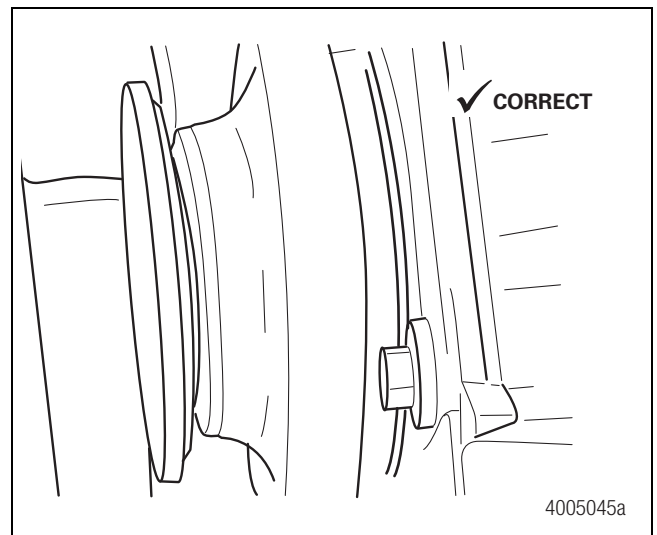
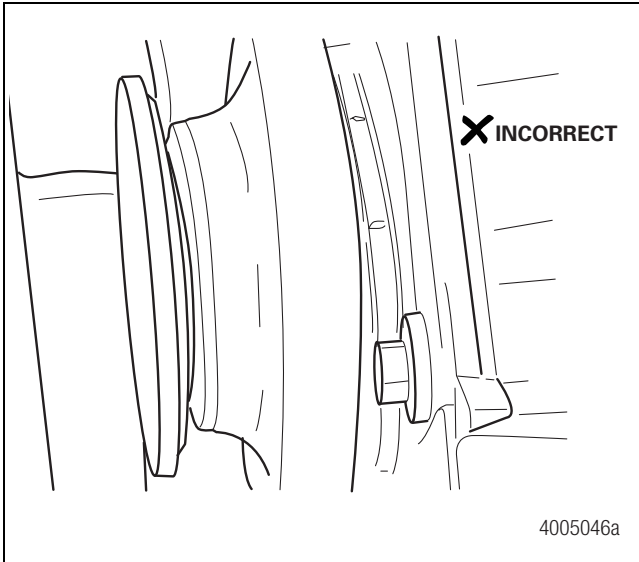

**Figure 5.16**
Figure 5.18
11. Rotate the piston boot and verify that the piston boot beads are correctly seated in the retainer groove. Figure 5.16. The piston boot beads must be correctly seated. Figure 5.17 and Figure 5.18.